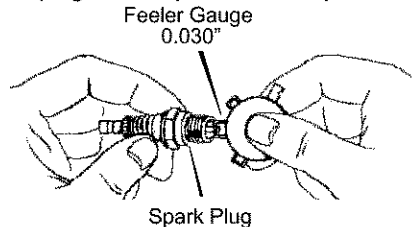

Figure 31
2. Check the **spark plug** gap with a **feeler gauge** and reset gap to 0.30" if necessary. See Figure 31.